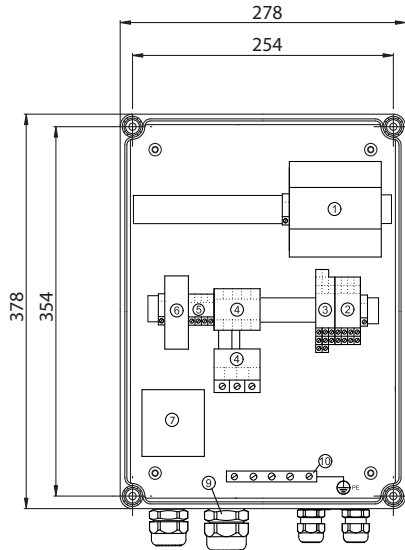
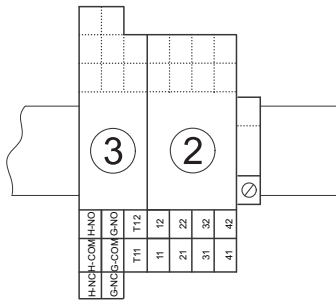

Fig. 1
Fig. 2
- with four screws through the mounting holes in the back plate of the cabinet, see fig. 1. The mounting holes must be bored with a 4 mm bore. Fit the screws into the mounting holes and tighten securely. Fit the plastic caps supplied with the controller on the screws (IP65).
Figure 1 shows the *internal* construction of the LC 108 for direct-on-line starting.
Figure 2 shows the terminals listed under positions 2 and 3.
Key to the symbols in figs 1 and 2:
### Fig. 1 on page 37.
### Fig. 2 on page 38.
### Key to the symbols in fig. 1 on page 37 and fig. 2 on page 38: